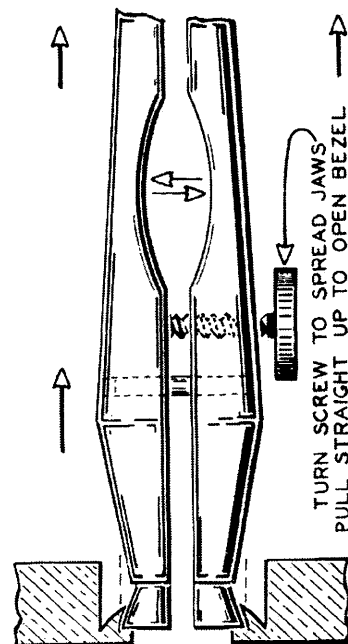

FIG. 12-19
In using the bezel opener, select one on which the jaws when closed will go easily into the old jewel seat and then gradually open the jaws by turning the screw, figure 12-19. Hold the opener much as you
2. Place bezel opener in seat of setting (figure 12-19).
3. Spread jaws of bezel opener carefully and pull straight out (figure 12-19).